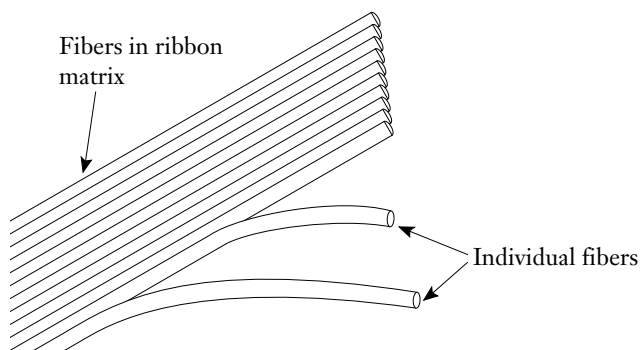

Figure 12
**5.6** If access to individual fibers in a ribbon is required, refer to SRP-004-076, *Accessing Individual Fibers in Corning Cable Systems Optical Fiber Ribbons Using the TKT-060 Kit* (Figure 12).